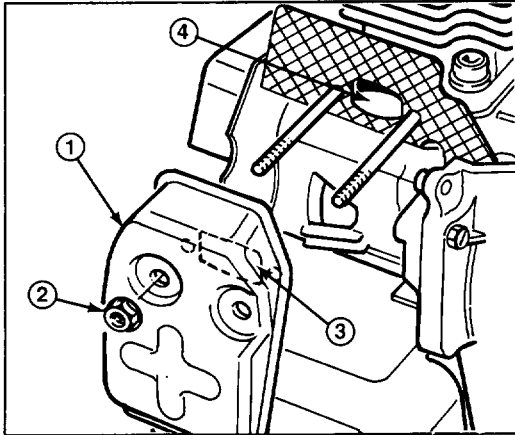

Figure 14
2. Remove two (2) nuts securing muffler to engine (Fig. 14). Remove muffler.
3. Clean any carbon build-up from muffler port (Fig. 14).
4. Pull recoil starter slowly to rotate the engine crankshaft until the piston totally covers the exhaust port (Fig. 14). Clean the exhaust port area by using a clean, flat piece of hard wood. Remove all loose particles.